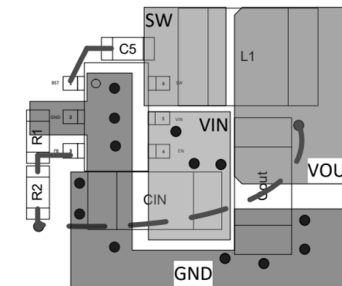

Figure 26. Recommended PCB Layout
9. See Figure 26 for more details.